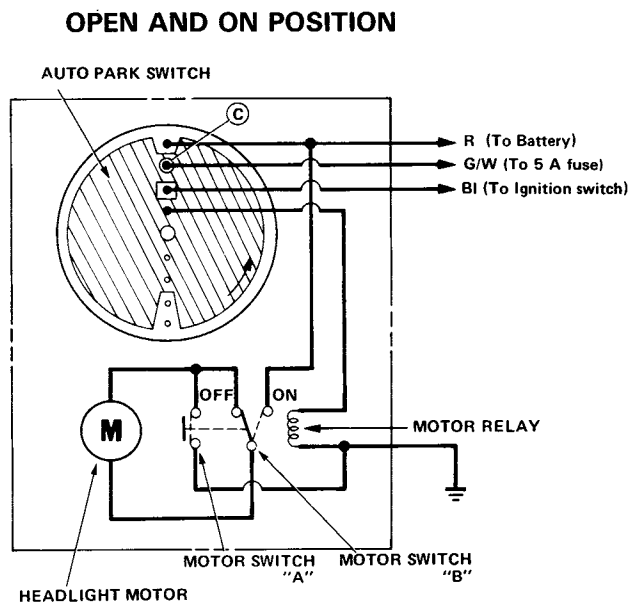

Figure 2
As the motor turns and the headlight is raised by the linkage, the auto park switches are positioned as shown in Figure 2.
When the auto park switches are positioned shown in Figure 2, points (A) and (B) are opened and the motor relay turns OFF the motor switches "A" and "B", stopping the motor.
This current energizes the motor relay to close motor switches "A" and "B". Since there is continuity between the (C) and (B) points of the auto park switch as shown in Figure 2, the motor turns and the auto park switches also rotate 180°.